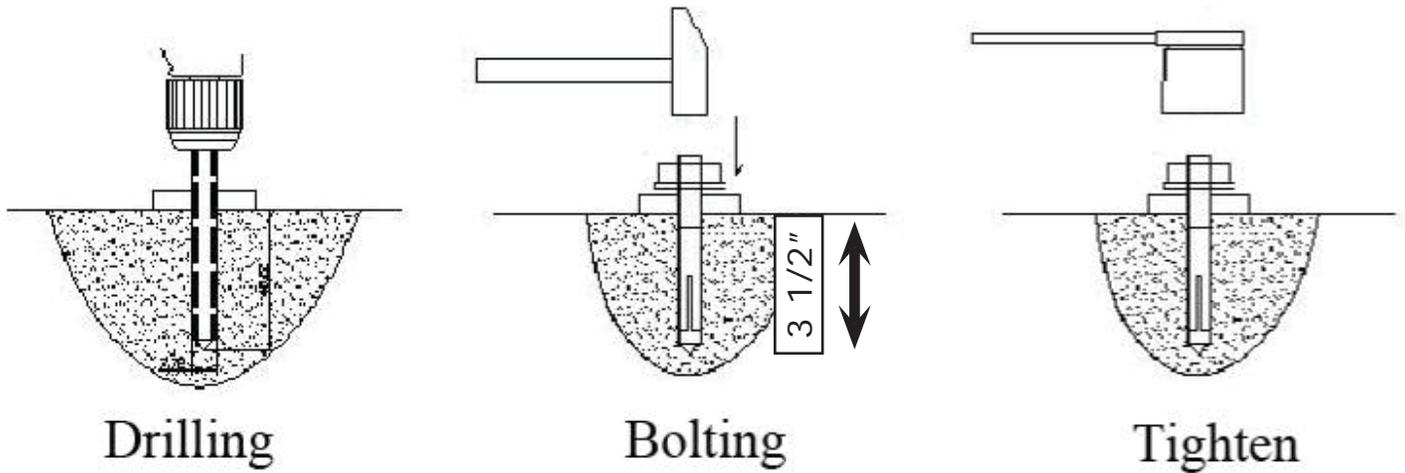

Fig. 23
2. Use a hammer drill with a $\frac{3}{4}$ " (19mm) masonry bit and drill all the anchor holes. Install the anchor bolts with a hammer. Tighten the Anchor Bolts between 85 and 110 foot pounds (See Fig. 23).